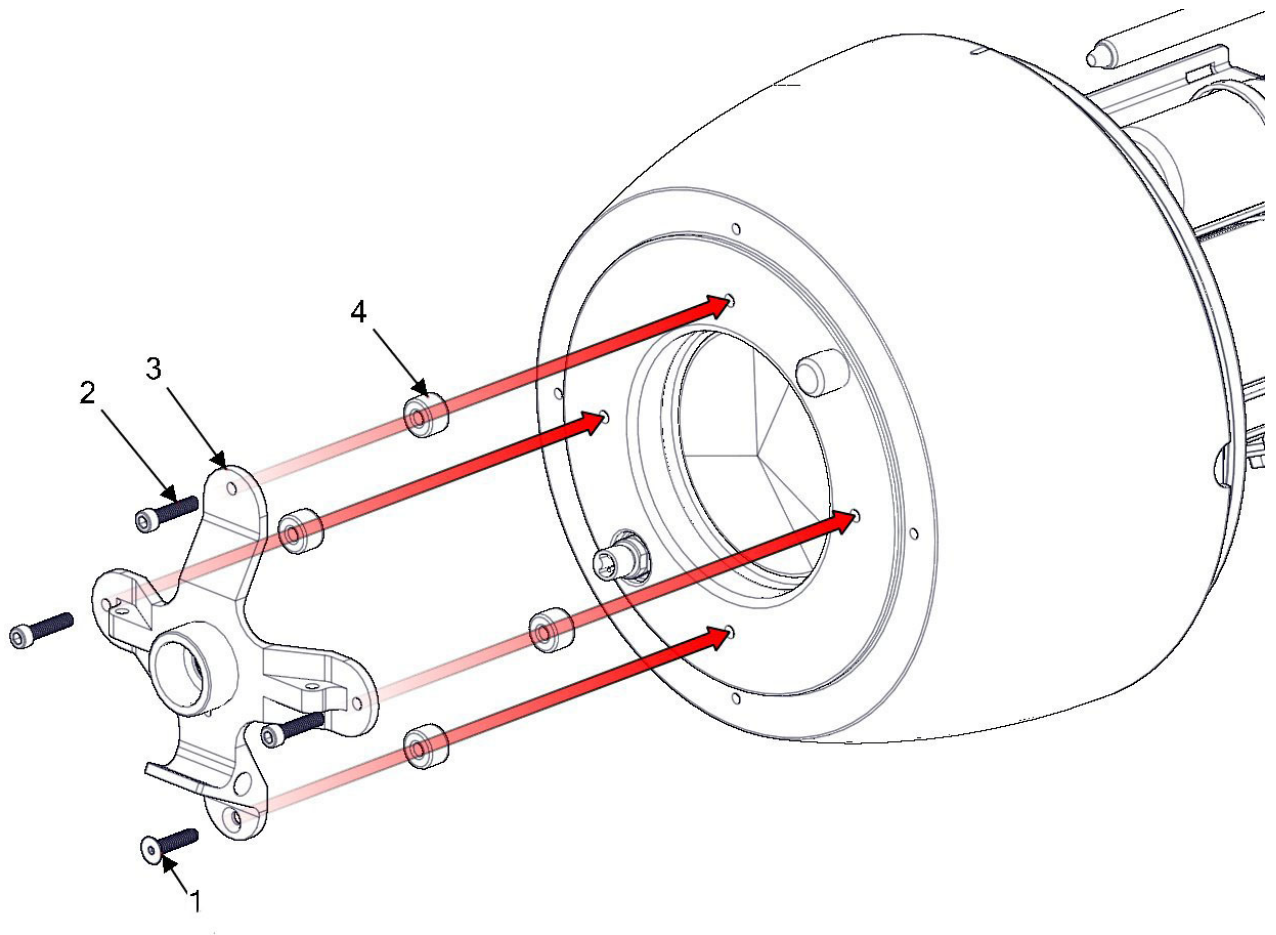

Figure 2-18 Recovery spool base (200-meter).
1. Remove the single screw (Figure 2-18, Item 1).
2. Remove the three screws (Figure 2-18, Item 2).
3. Remove the recovery spool base (Figure 2-18, Item 3).
4. Remove the four spacers (Figure 2-18, Item 4).
1. Position the recovery spool base (Figure 2-18, Item 3) on four spacers (Figure 2-18, Item 4).
2. Install the three screws (Figure 2-18, Item 2).
3. Install the single screw (Figure 2-18, Item 1).